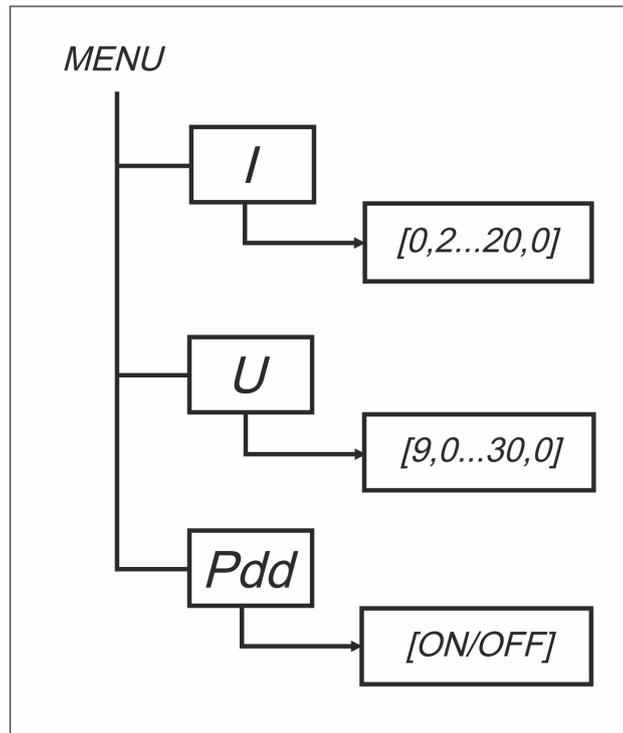

Figure 4 – Structure of the Product’s menu
2.3.1.1 The structure of PCH menu with an integrated control is shown in Figure 4 and Table 5.